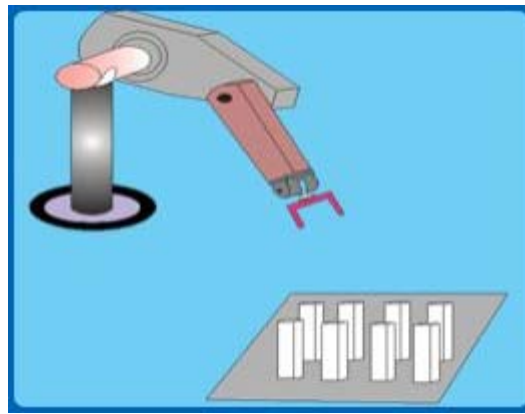

Figure 3.5.1
- Palletizing (soft drink bottles to be placed in a crate). This is a special type of Point to Point task – this occurs when bottles are placed in a crate. See Figure 3.5.1